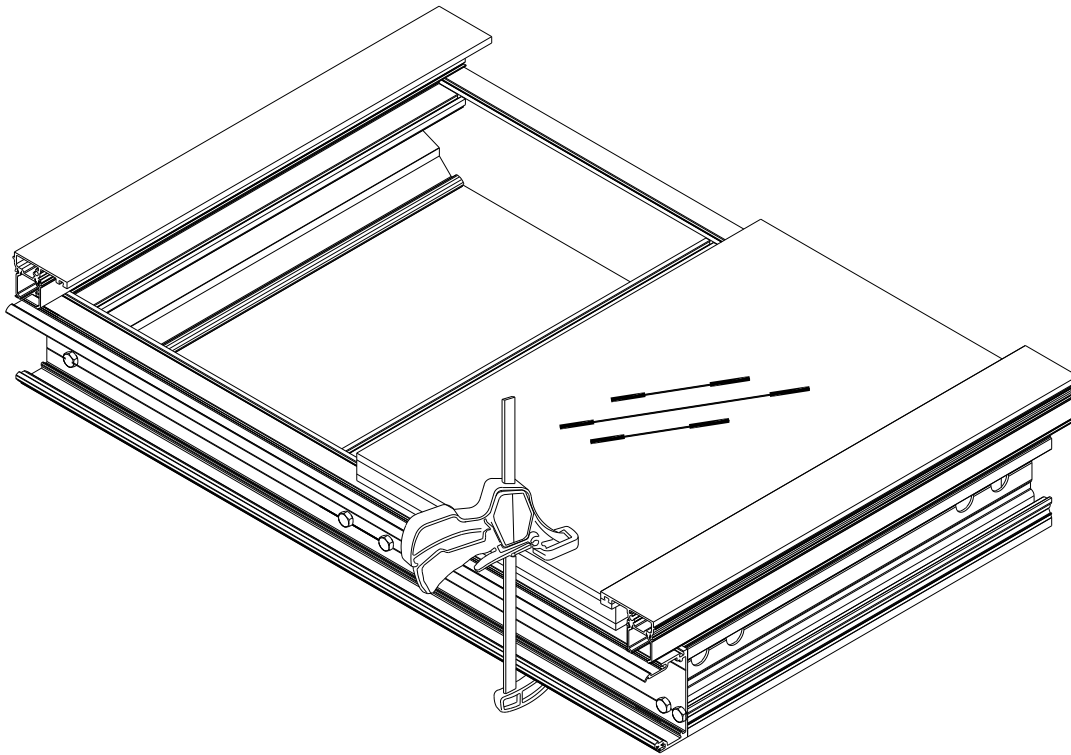

Figure 52: Glass Clamping
- NOTE:** to prevent glass from coming off the **GP-106** spacer, multiple clamps are recommended to keep the glass tight and the frame square. Reference Figure 52.
- 16.5.1 With the panel frame **square and without bow**, clamp the glass to the frame to ensure prevent structural silicone from pushing past spacer gasket, similar to *Figure 52*.